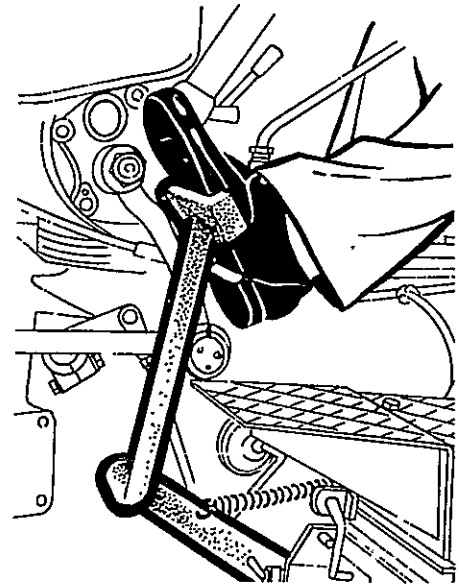

Fig. 3-18
- 1) Depress the clutch pedal to the end so that the P. T. O. clutch is disengaged (see Fig. 3-18) and the P. T. O. shaft stops rotation.